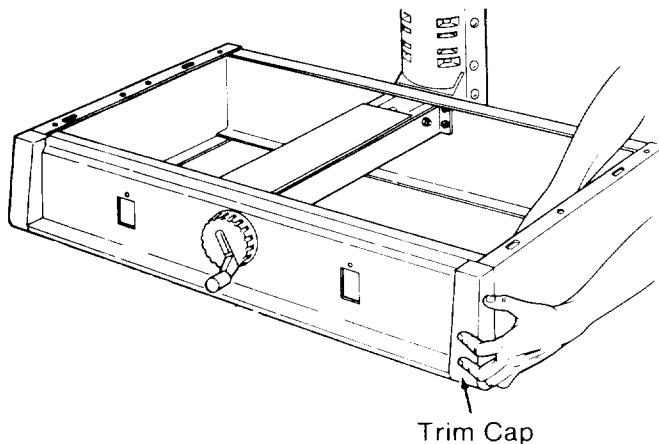

Fig. 30
3. Hold the *right trim cap* in place on the front right side of the cabinet. (Figure 30)